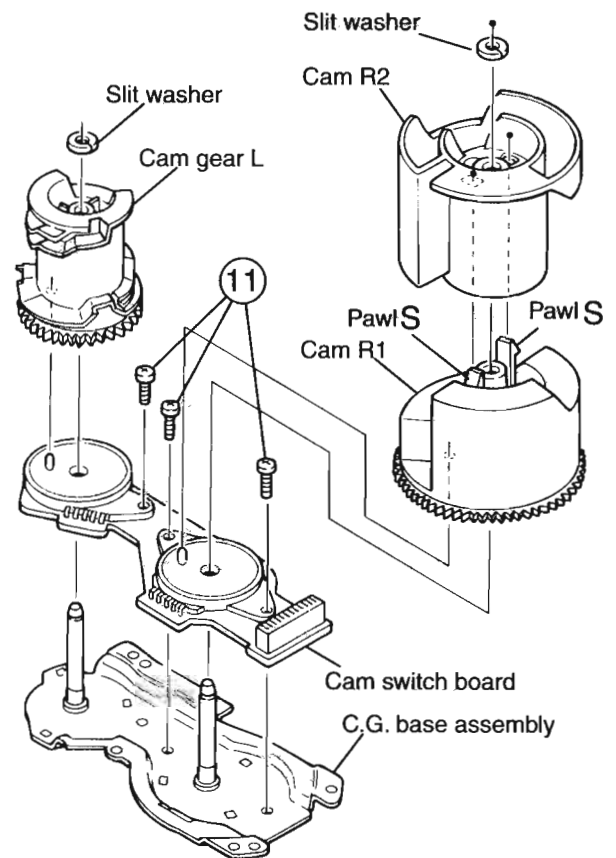

Fig.22
**[Note]** When the chassis assembly is turned over under the conditions wherein the gear bracket and belt have been removed, then the pulley gear as well as the gear, etc. constituting the gear unit can possibly be separated to pieces. In such a case, assemble these parts by referring to the assembly and configuration diagram in Fig. 22.
### ■ Removing the cams R1/R2 assembly and cam gear L (See Fig.22)
### ■ Removing the C.G. base assembly (See Fig.22 and 23)